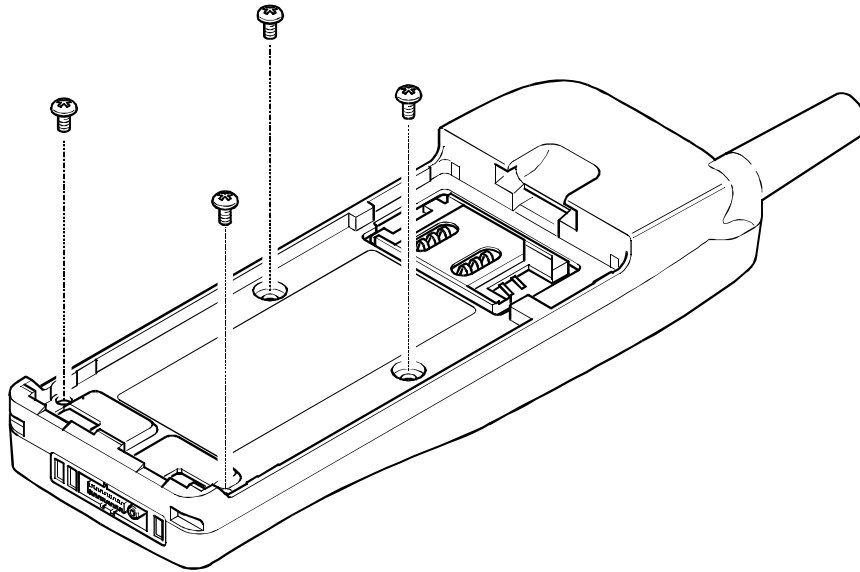

Figure 10: Case reassembly
1. (Figure 10) Care must be taken when reinstalling the back onto the telephone case. Ensure that the securing screws are not over-tightened as this may affect the operation of the keypad.